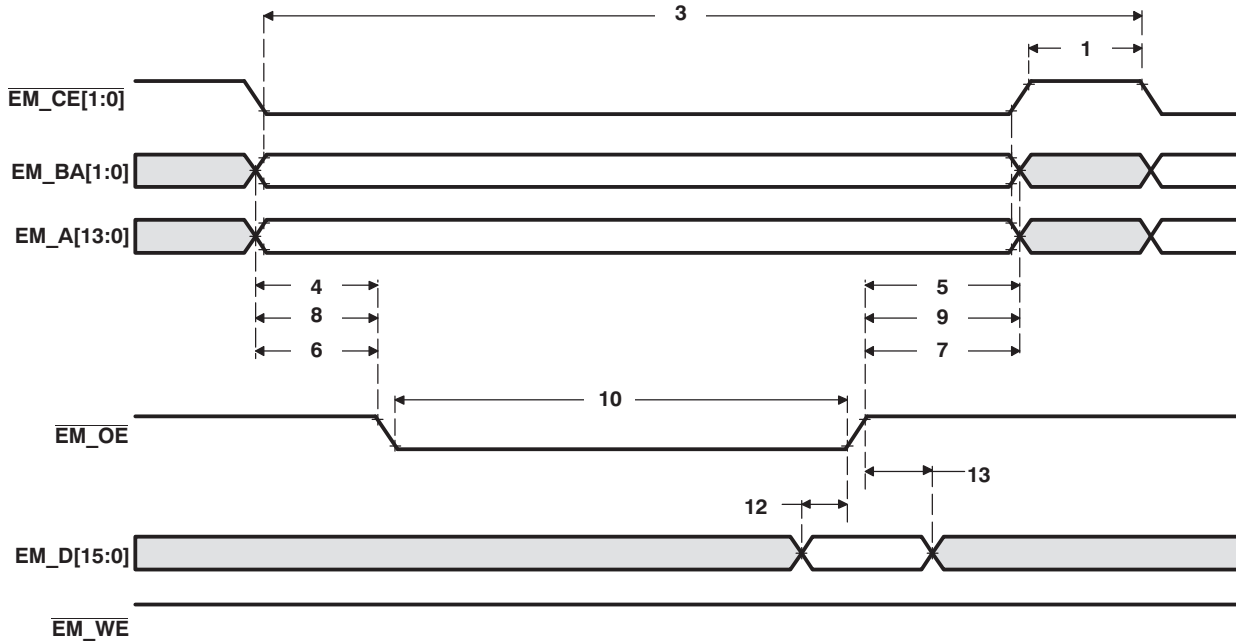
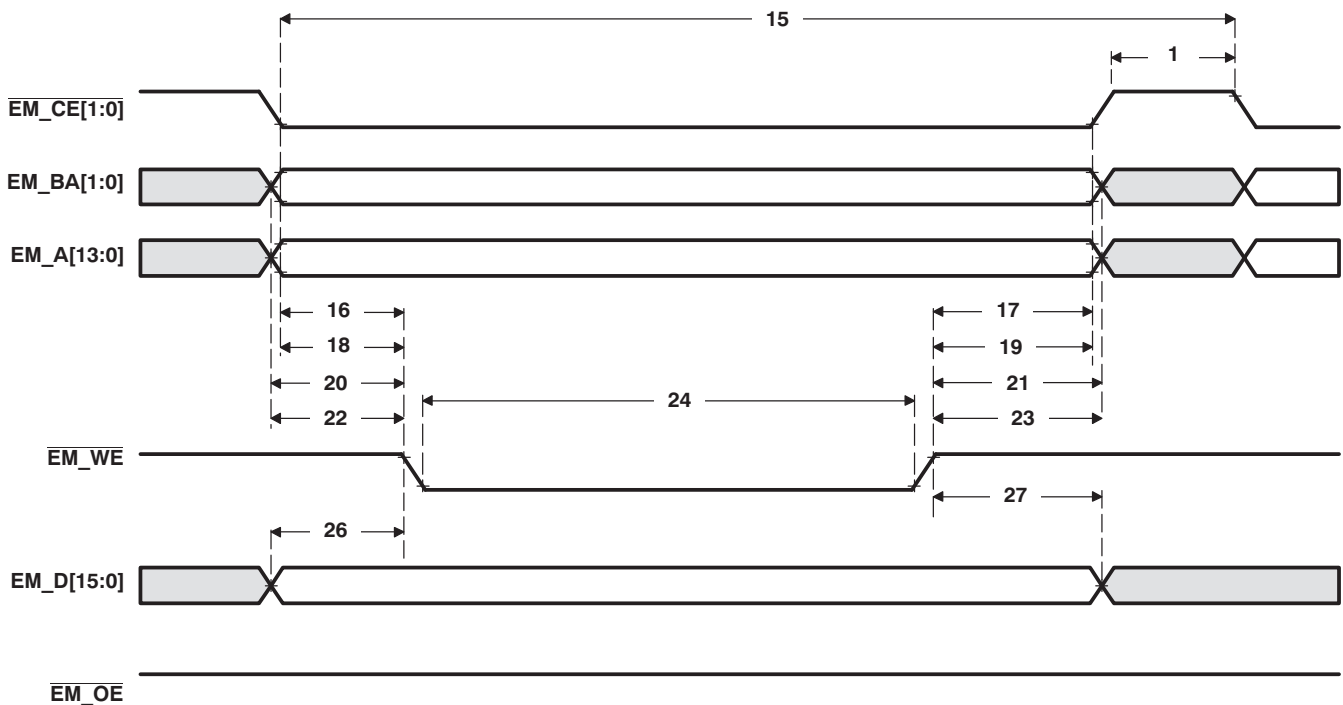

Figure 5-14. Asynchronous Memory Read Timing for EMIF
Figure 5-15. Asynchronous Memory Write Timing for EMIF
**Table 5-13. Timing Requirements for Asynchronous Memory Cycles for AEMIF Module(1) (see Figure 5-14 and Figure 5-15)**
**Table 5-14. Switching Characteristics Over Recommended Operating Conditions for Asynchronous Memory Cycles for AEMIF Module(1)(2)(3) (see Figure 5-14 and Figure 5-15)**
(1) TA = Turn around, RS = Read setup, RST = Read strobe, RH = Read hold, WS = Write setup, WST = Write strobe, WH = Write hold, MEWC = Maximum external wait cycles. These parameters are programmed via the Asynchronous Bank and Asynchronous Wait Cycle Configuration Registers. These support the following range of values: TA[4-1], RS[16-1], RST[64-1], RH[8-1], WS[16-1], WST[64-1], WH[8-1], and MEWC[1-256]. See the *TMS320DM355 DMSoC Asynchronous External Memory Interface (EMIF) User's Guide* (literature number SPRUED1) for more information.
(2) E = PLLC1 SYSCLK2 period in ns. SYSCLK2 is the EMIF peripheral clock. SYSCLK2 is one-fourth the PLLC output clock. For example, when PLLC output clock = 432 MHz, E = 9.259 ns. See Section 3.5 for more information
(3) EWC = external wait cycles determined by EM\_WAIT input signal. EWC supports the following range of values EWC[256-1]. Note that the maximum wait time before timeout is specified by bit field MEWC in the Asynchronous Wait Cycle Configuration Register. See the *TMS320DM355 DMSoC Asynchronous External Memory Interface (EMIF) User's Guide* (literature number SPRUED1) for more information.
**Table 5-14. Switching Characteristics Over Recommended Operating Conditions for Asynchronous Memory Cycles for AEMIF Module (see Figure 5-14 and Figure 5-15) (continued)**
Table 5-14. Switching Characteristics Over Recommended Operating Conditions for Asynchronous Memory Cycles for AEMIF Module (see Figure 5-14 and Figure 5-15) (continued)